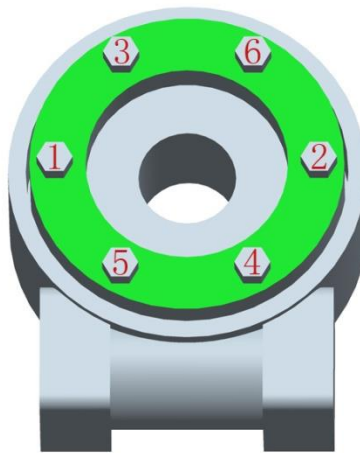

Figure 4. Bolt Torque Sequence
- Thread the bolts and washers, if required, into the slew drive, hand tightening each bolt. Tighten one ring at a time. You can start with the inner ring or outer ring but you must follow the tightening procedure until the full tightening torque has been reached before moving to the next ring. The bolts should be tightened in a crosswise pattern as shown in Figure 4. Follow the crosswise pattern tightening each bolt to 30% of the tightening torque. Then repeat crosswise torque pattern tightening each bolt to 50% of tightening torque. Finally repeat the crosswise pattern tightening each bolt to 100% of the tightening torque. Proceed to the other ring and repeat the bolt torque sequence.